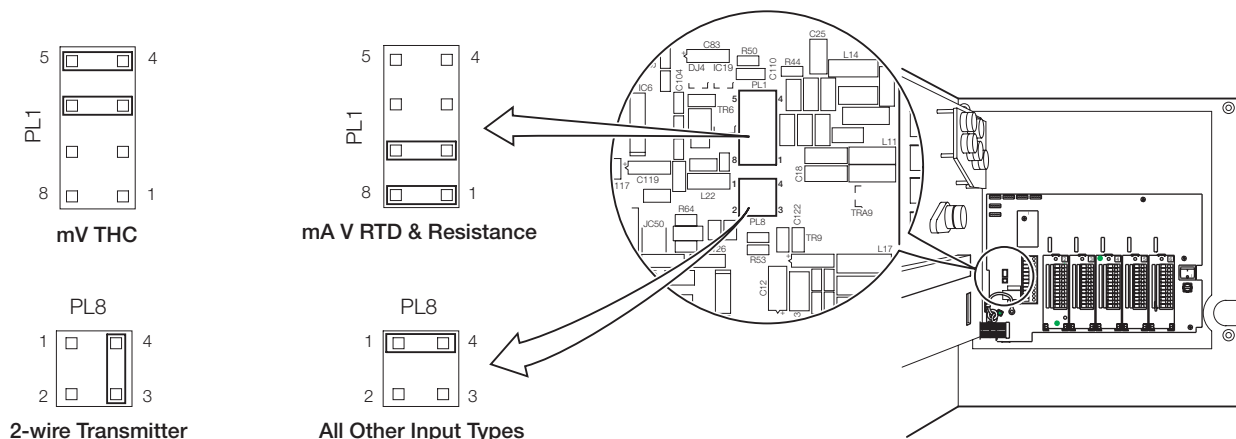

Fig. 5.3 Selecting the Input Type (Main Board)
5.2.1 Selecting the Analog Input Type(s) – Figs. 5.3 and 5.4
Channel 1 PL1 & PL8 on the main p.c.b. (Fig. 5.3)